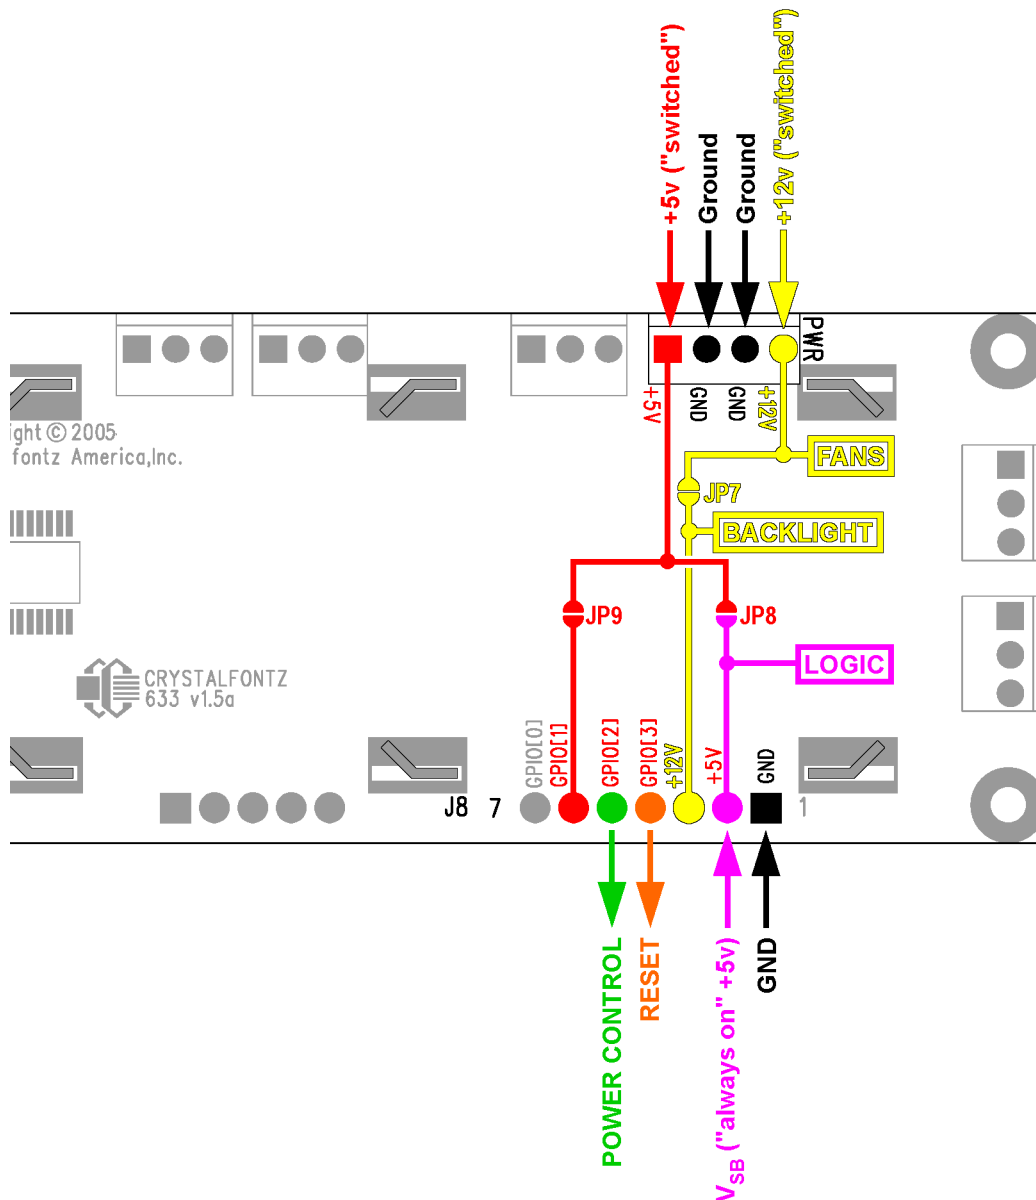

Figure 4. CFA633-TMC-KS ATX power supply and control connections
*JP7 must be opened for the operating range of +12v fans to be different from +12v backlights (listed in this table). If JP7 is closed (which is the factory default), then the voltage specification range for backlights must be observed for both backlights AND fans. Please see Figure 4. on Pg. 12.